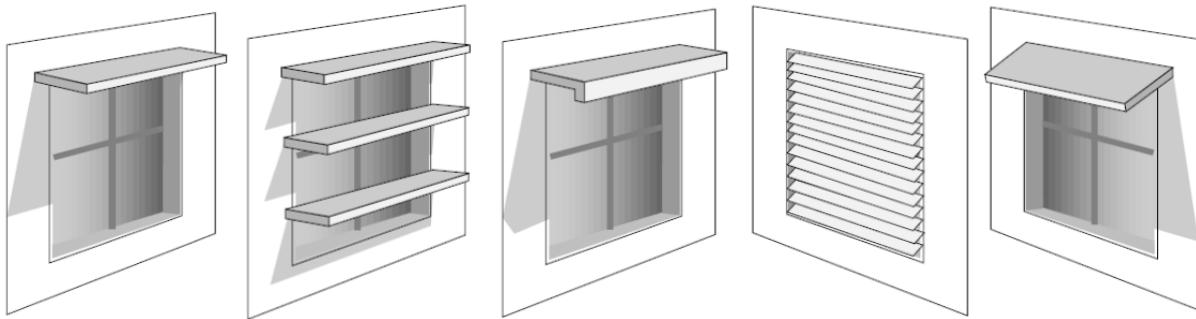

Figure 19: Far left, a standard horizontal overhang shade, and other shading options with reduced projection from the envelope
- **Use exterior shading,** either a device attached to the building skin or an extension of the skin itself, to keep out unwanted solar heat. Exterior systems are typically more effective than interior systems in blocking solar heat gain. Figure 19 illustrates some exterior shading options. Making these operable for occupants provides the greatest potential benefit in terms of occupant satisfaction (and, potentially, energy savings).